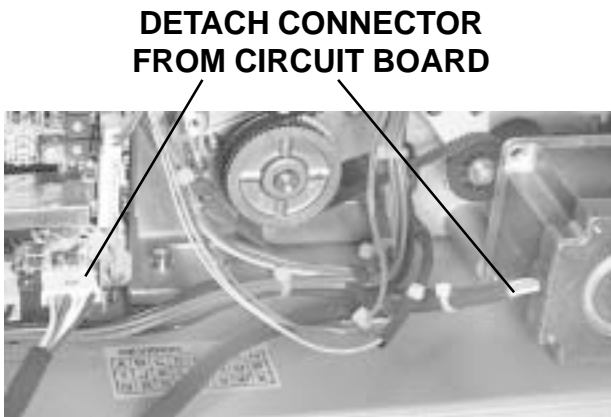

Fig. 6-17
4.	Detach the motor cable connector from the main circuit board. Fig. 6-17